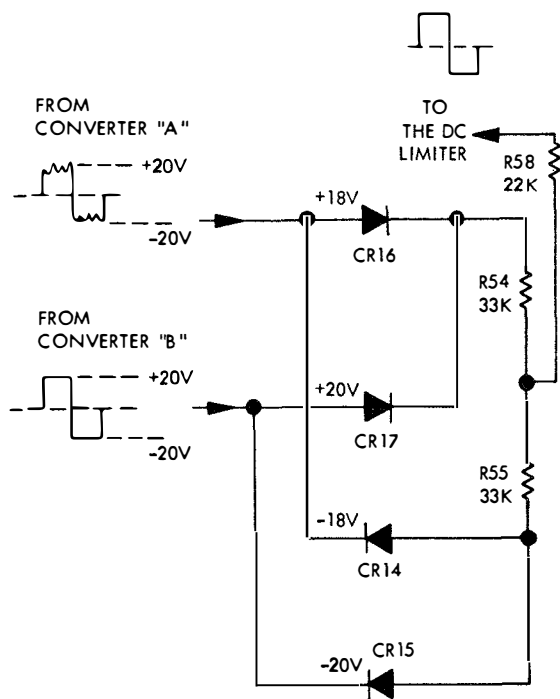

Figure 4-5. Comparator Circuit,
(3) **COMPARATOR.** - The main function of the comparator is to compare the strength of signals from the two receivers during diversity operation, and allow only the stronger signal to be applied to the dc limiter. The comparator consists of CR14, CR15, CR16, CR17, R54, and R55. In diversity operation, two converters are used with two receivers for the operation of a single teletype printer. The signals are compared at the comparator in each of the converters (see figure 4-5), with the stronger signal being applied to the dc limiter. The FUNCTION switch, S4, on both converters must be placed at DIVERSITY. The teletype printer may be connected to either converter.
In figure 4-5, the peak amplitudes of both input signals are equal but the signal from converter A contains noise. The signal from converter B has a constant peak value of +20 volts and will develop a greater voltage across R54 and CR16, preventing converter A from actuating the dc limiter. The FUNCTION switch, S4, has two other positions, SINGLE and TUNE. In the SINGLE position, the positive mark pulses cause CR16 to conduct and negative space pulses cause CR14 to conduct. In the TUNE position, the signal input to the dc limiter is removed while the receiver is being tuned. A small, positive voltage is applied to the dc limiter input by R56 and R57 to lock up the teletype printer during the interruption in the input signal. Without the positive voltage, the teletype printer would run open.